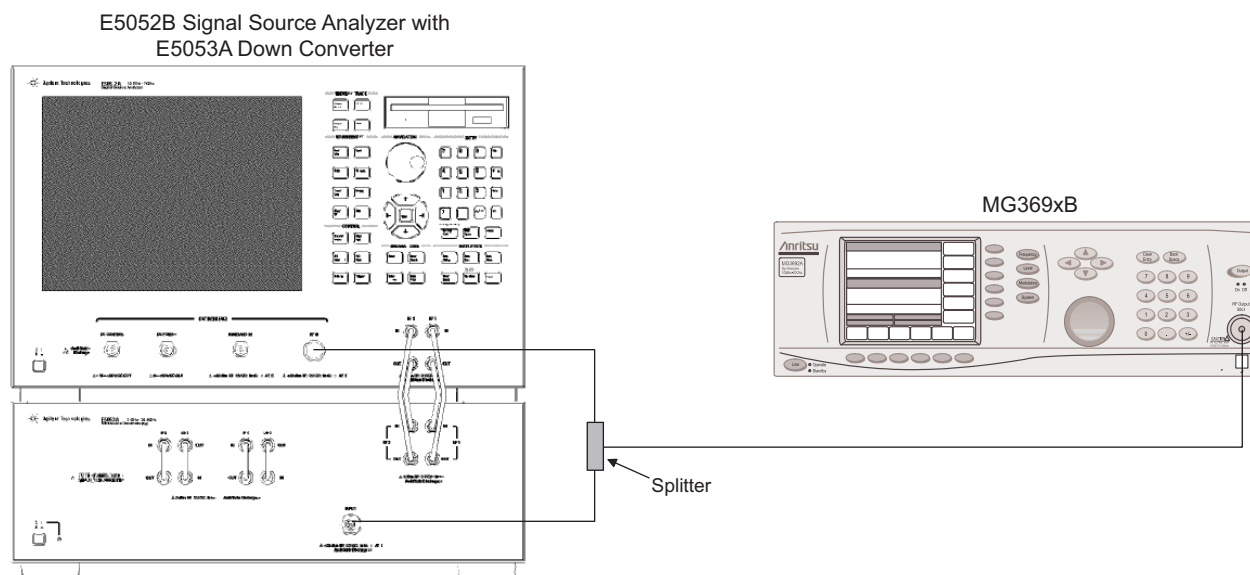

Figure 3-3. Equipment Setup for Single Sideband Phase Noise Test with E5052B and E5053A
- Connect the MG369xB as shown in Figure 3-3.